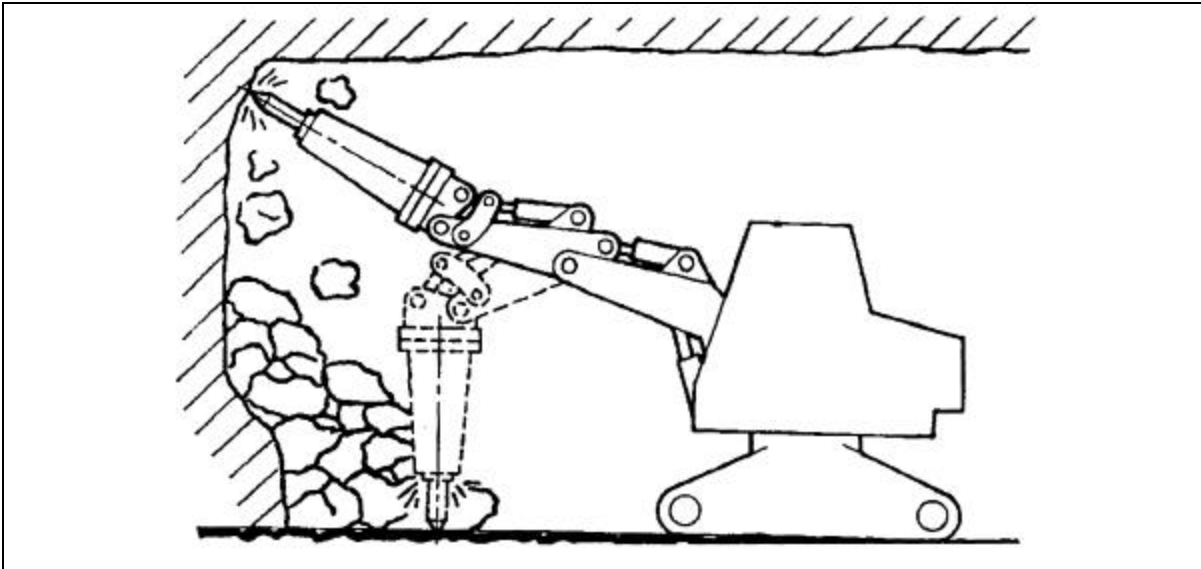

Figure 02-06: Lower Breaker Every Hour When Working Overhead
- j) In the case of horizontal or upside-down operations (e.g. tunnels), once every hour the operator should lower the hammer to a vertical position (Figure 02-06), so that any particles of rock which have collected in the hammer can fall out. (Operator can alternate hammering up and down.) If this is not done, the hammer impact will be wasted on the rock particles, and in addition will create thermal energy in the particles and hammer, causing overheating. Prolonged overheating will cause the hammer materials to lose their original mechanical resistance. In order to keep particles out of the hammer, an air hose may be installed in the same way as would be done for underwater usage.